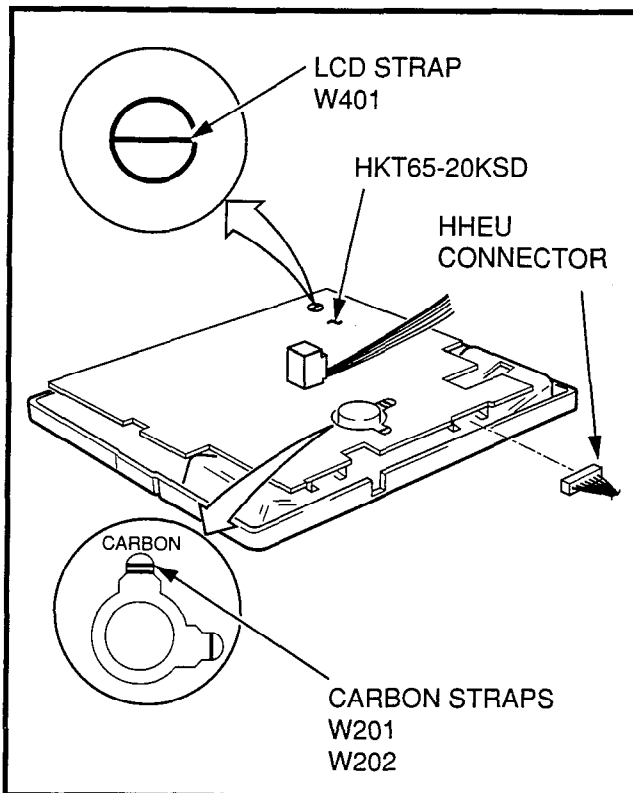

FIGURE 4-30—LOCATION OF CARBON STRAPS
5.33 Locate the two carbon straps **W201** and **W202** (Figure 4-30). Cut both straps.
5.46 Connect the HHEU PCB to the electronic telephone PCB (Figure 4-30).